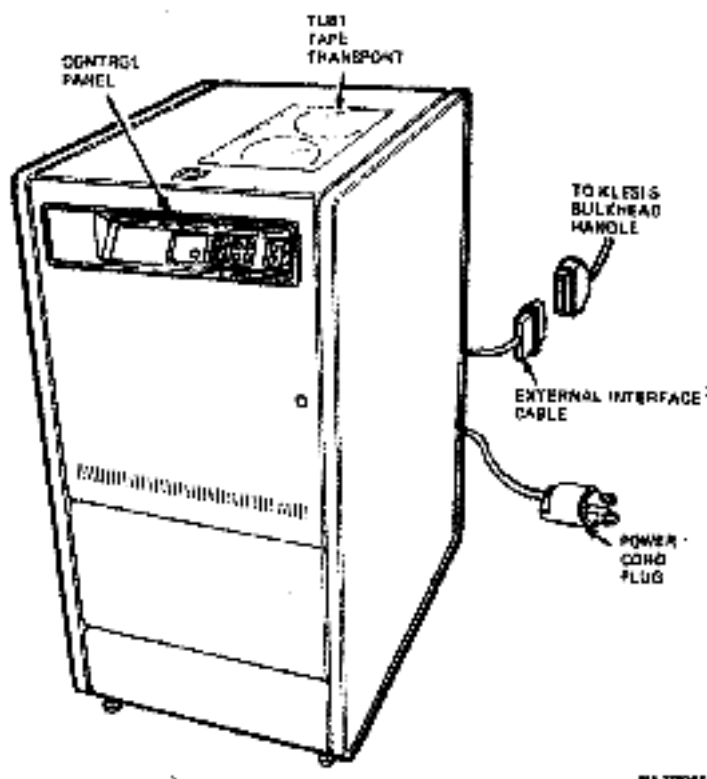

Figure 2-12 TU81E Cable Connection
4. Connect the cable to the 50-pin external I/O cable on the TU81E tape transport (Figure 2-12). Tighten the single captive screws on the top and bottom of the 50-pin connector.